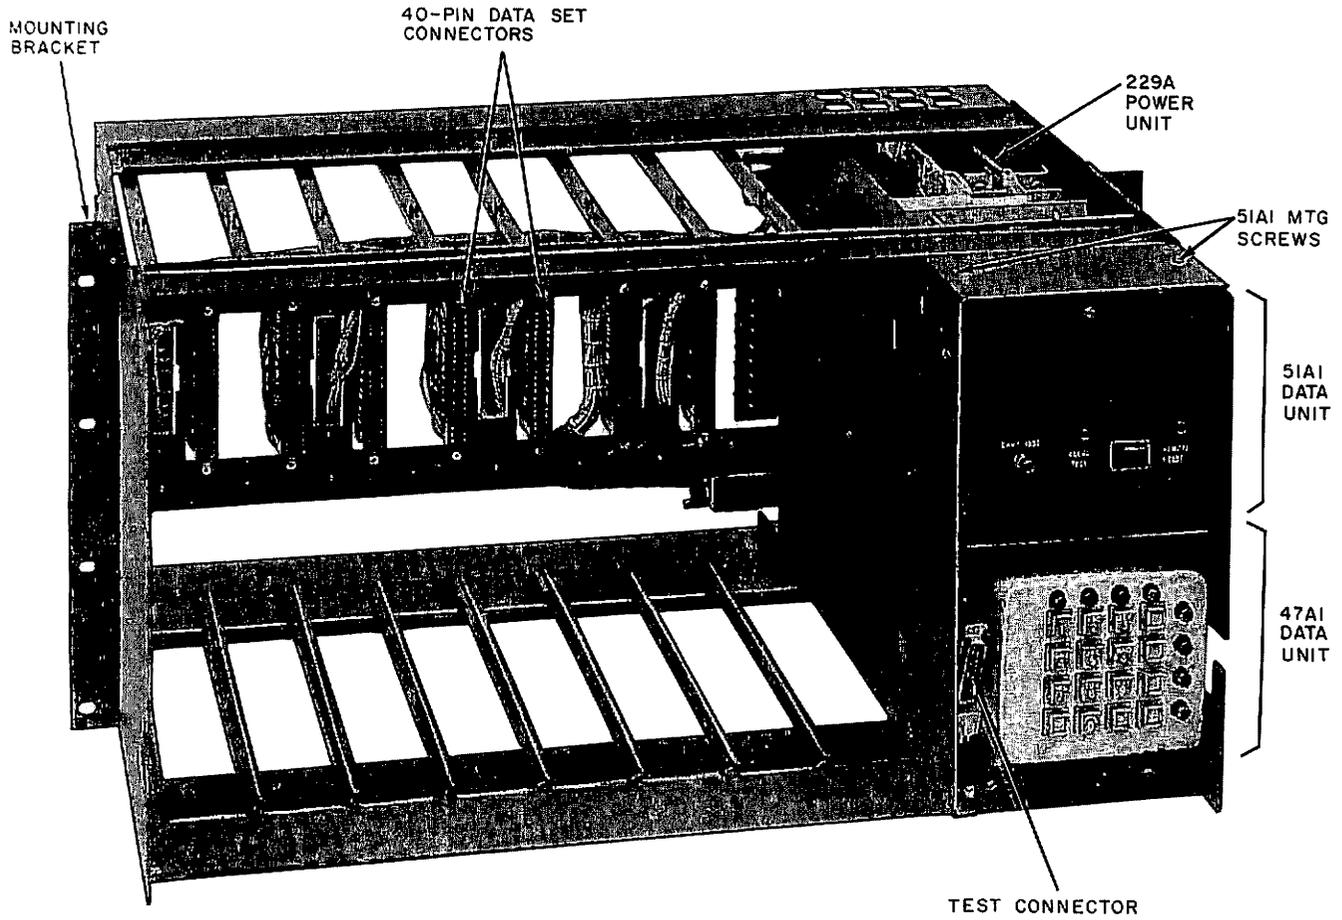

Fig. 1—57A1 Data Mounting With Front Cover Removed
1.03 The 57A1 data mounting provides the "nest" for up to four data sets (DS) 407C and the associated backplane wiring (Fig. 1). The 57A1 data mounting contains a 229A power unit, 47A1 and 51A1 data units, and a test cable.